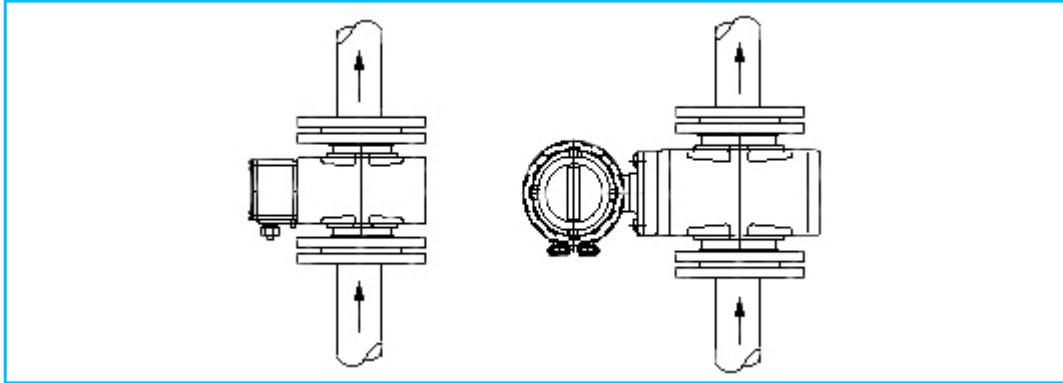

Fig. 7 : Installation in Vertical Pipeline
- Vertical Installations when abrasion may be present, flowrate upward, max. 3 m/s (Fig. 7)